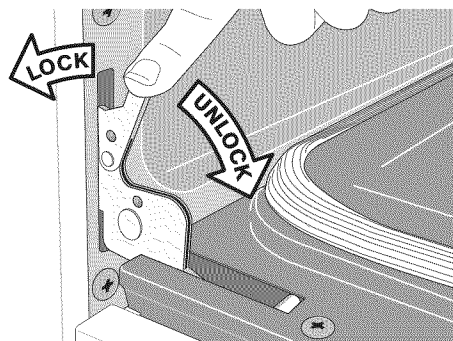

Figure 56: Door hinge locks
2. Pull the door hinge locks on both left and right door hinges down from the oven frame completely toward the oven door (See Figure 56). A tool such as a small flat-blade screwdriver may be required.
4. Push the door hinge locks up toward and into the oven frame on both left and right oven door hinges to the locked position (Figure 56).